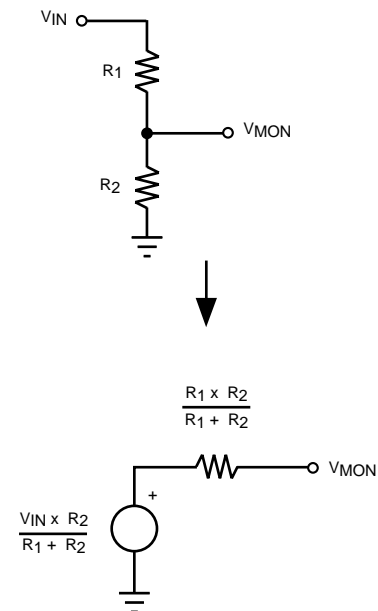
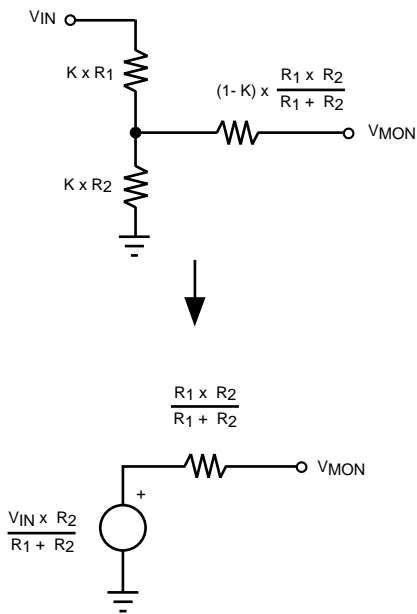

FIGURE 4
FIGURE 5
The purpose of the resistor divider connected between the Battery Input and the V_{MON} pin is twofold. The first purpose is to appropriately select the divider ratio such that the DBO threshold is set to the desired level. The second purpose is to select the absolute resistor values such that the LBO threshold is set to an appropriate level relative to the DBO threshold. Effectively, an attenuated voltage source with a relatively large output impedance is driving the V_{MON} pin. This scenario is illustrated in Figure 4.
The resistor divider consisting of R_1/R_2 can be scaled downward by a factor scale factor (K) to utilize smaller resistor values $K \times R_1$ and $K \times R_2$ ($K < 1$). By adding an additional series resistor, which can be dependent upon the scale factor (K) and the resistor values comprising the divider, the V_{MON} pin will effectively see the same voltage source and drive impedance as illustrated in Figure 4. The three-resistor attenuator is illustrated below in Figure 5.